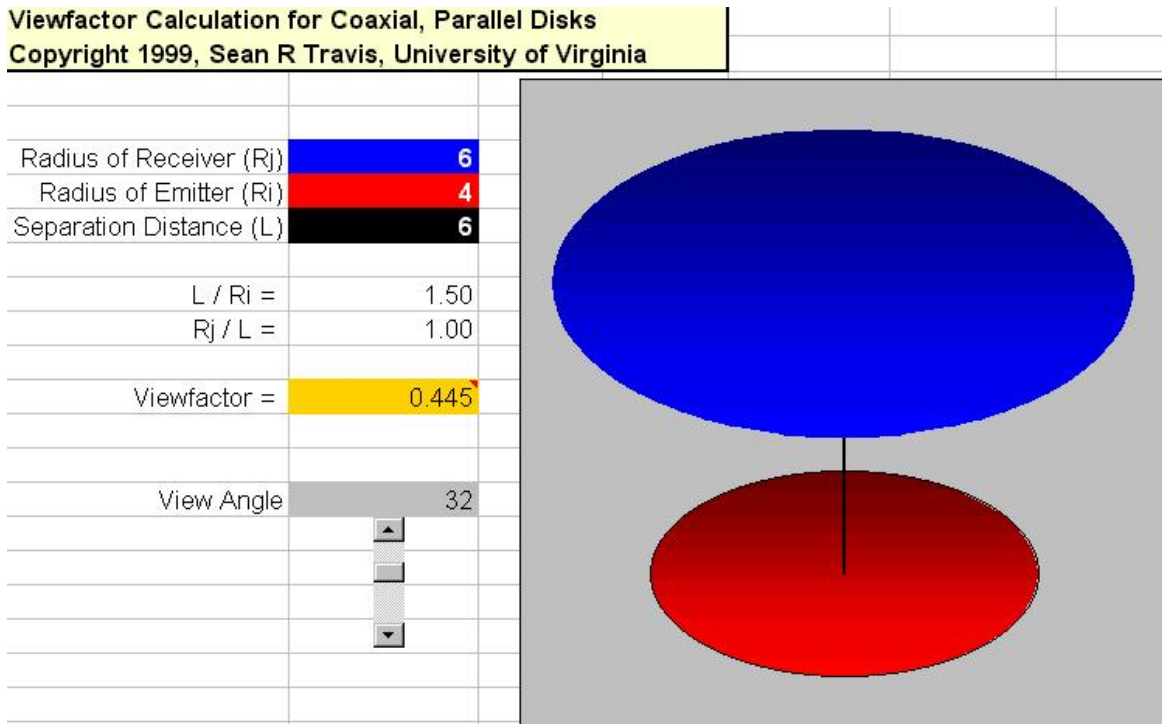

Figure 8. Excel worksheet for viewfactor for coaxial, parallel disks
Any of the drawing and charting capabilities of Excel may be implemented through VBA coding. ActiveX controls may be incorporated similarly. (Use **Tools – Customize – Toolbars – Control Toolbox** to bring up the controls toolbox. The toolbox includes an icon that will switch you between **Design** and **Run** mode.)⁴ In the example seen in Figure 8 below the user enters the radius of the two coaxial parallel disks and their separation distance. A VBA function computes the viewfactor (a geometric quantity representing the fraction of radiation emitted by one disk that is intercepted by the other assuming the first surface is a diffuse emitter and used in radiative heat transfer analysis and in computer graphics) based on the analytical solution, and then invokes a subroutine that draws the two disks to scale within the gray window. As an additional feature, the user can change the viewing angle using the vertical slider bar control.
Now one can include similar coding into a custom VBA application program, changing for instance, the size, colors and location to suit your needs. In Figure 8, several “special effects” have been used, including horizontal shading of both disks to give the illusion of depth. Again, as noted earlier, you pretty much need a copy of Excel 2003 to have any hope of doing this.
Certain controls, e.g., the scrollbar, have the property of a “linked cell.” In Figure 8, the cell that in this static picture has a value of 32 is linked to the scrollbar and holds the current value set by the scrollbar. VBA code can be made to access this particular cell, thus allowing the scrollbar to be used for data input. The “value” property of the scrollbar is an integer that may be set to run from 0 to 32767 ($= 2^{15}-1$). Thus if you wanted the actual property being controlled to run from -1.0 to 1.0 in increments of .01, you could take the limits for the scrollbar to run from 0 to 200 and put that number in the assigned linked cell (which you may want to hide somewhere). In another cell or in VBA code, set the actual value = $-1.0 + \text{scrollbar value}/100$. When the scrollbar value is at its minimum value of 0, then your property has the value of -1.0; at the maximum value of the scrollbar (200), your actual variable has the desired value of +1.0.